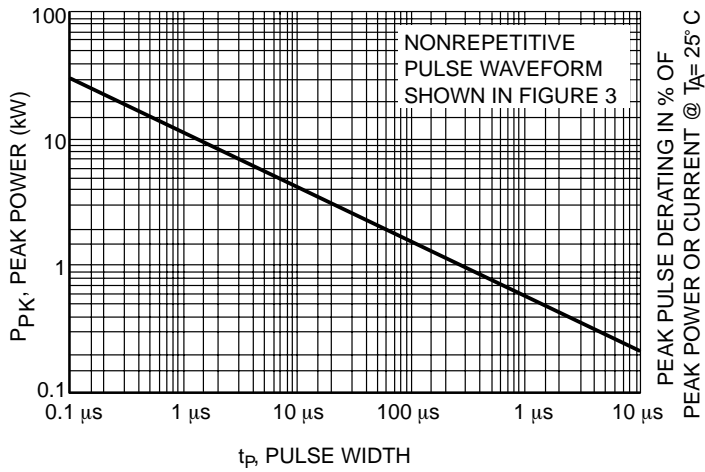
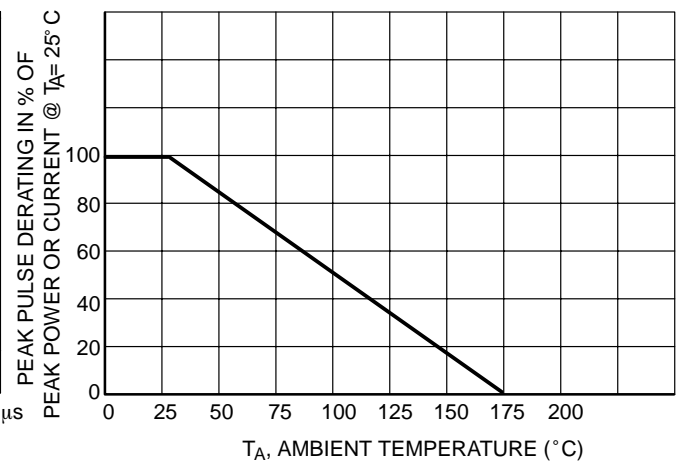
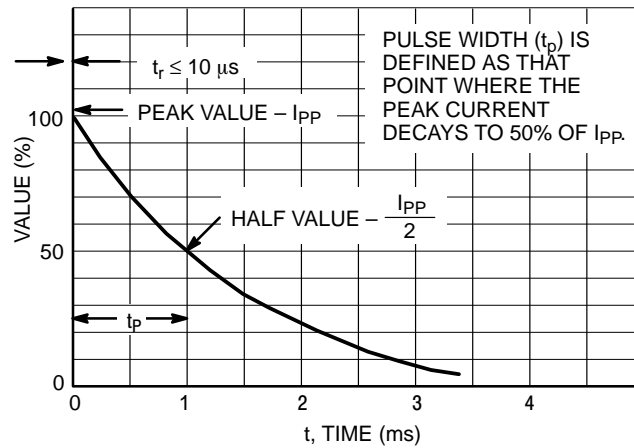
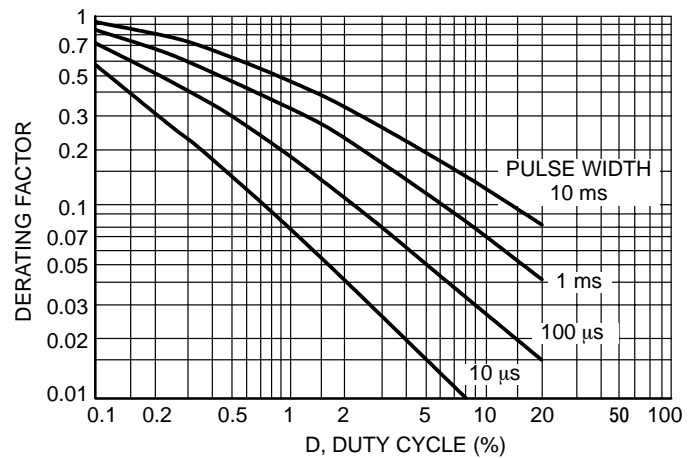

Figure 1. Pulse Rating Curve
Figure 2. Pulse Derating Curve
Figure 3. Pulse Waveform
Figure 5. Typical Derating Factor for Duty Cycle
1. Nonrepetitive current pulse per Figure 3 and derated above  $T_A = 25^\circ\text{C}$  per Figure 2.
3. Surge current waveform per Figure 3 and derate per Figures 1 and 2.
The data of Figure 1 applies for non-repetitive conditions and at a lead temperature of  $25^{\circ}\text{C}$ . If the duty cycle increases, the peak power must be reduced as indicated by the curves of Figure 5. Average power must be derated as the lead or ambient temperature rises above  $25^{\circ}\text{C}$ . The average power derating curve normally given on data sheets may be normalized and used for this purpose.
At first glance the derating curves of Figure 5 appear to be in error as the 10 ms pulse has a higher derating factor than the 10  $\mu\text{s}$  pulse. However, when the derating factor for a given pulse of Figure 5 is multiplied by the peak power value of Figure 1 for the same pulse, the results follow the expected trend.